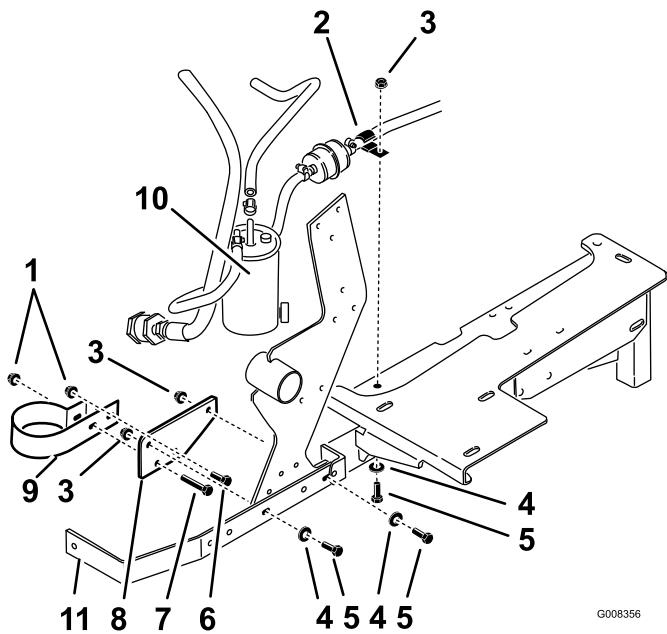
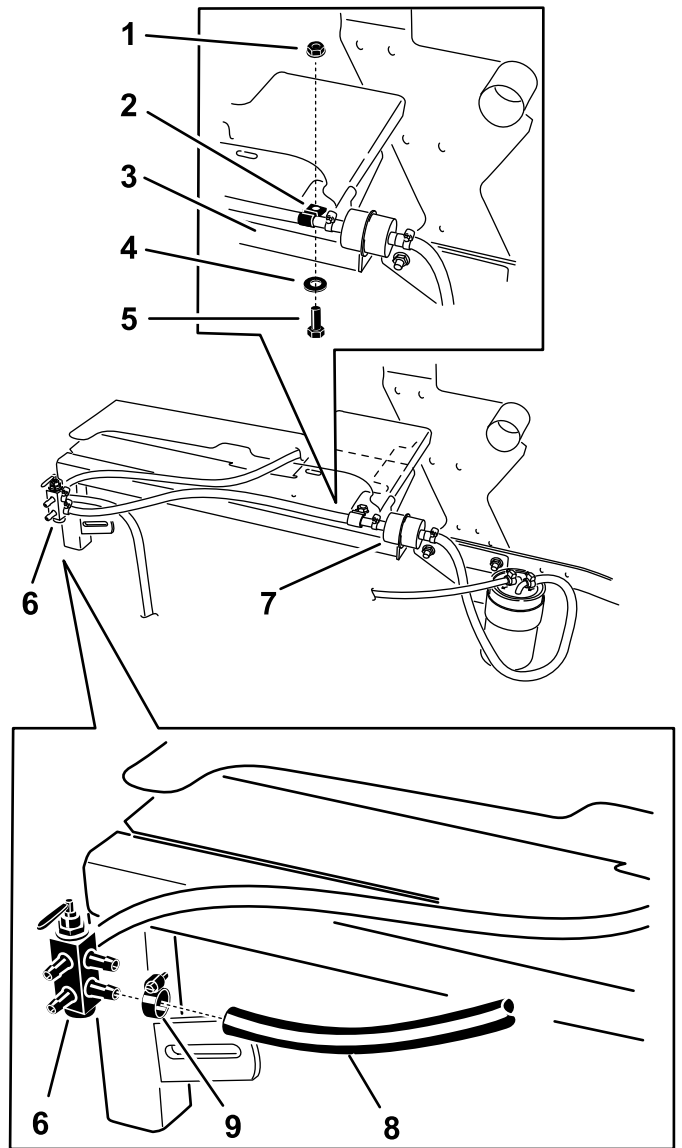

Figure 3
Figure 4
1. Remove the existing hardware from the engine strap (Figure 3).
2. Install the mounting bracket to the engine strap with the previously removed hardware (Figure 3).
3. Install the water separator into the fuel filter clamp and install it to the mounting bracket with a bolt (5/16 x 1-3/4 inches), a bolt (5/16 x 3/4 inch), and 2 locknuts (5/16 inch) (Figure 3).
2. Remove the existing hardware and install the J-clamp to the engine frame (Figure 3 and Figure 4).
3. Install the fuel hose connected to the fuel filter into the J-clamp (Figure 4).
4. Install the new fuel hose onto fuel selector valve with a hose clamp (Figure 4).